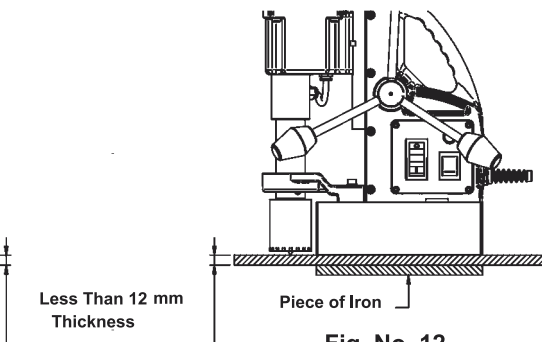

Fig. No. 12
- If workpiece under drilling is thin. use an iron plate larger than base as shown in (Fig. No. 12)